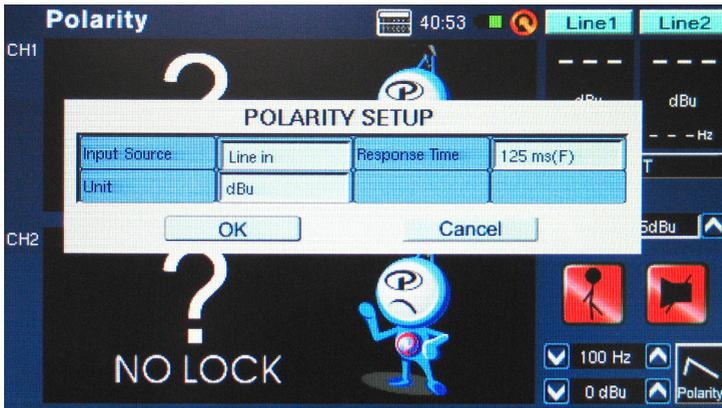

figure 56
2. Go to the SET menu (figure 56) and select MIC as your input source. Exit the setting menu.